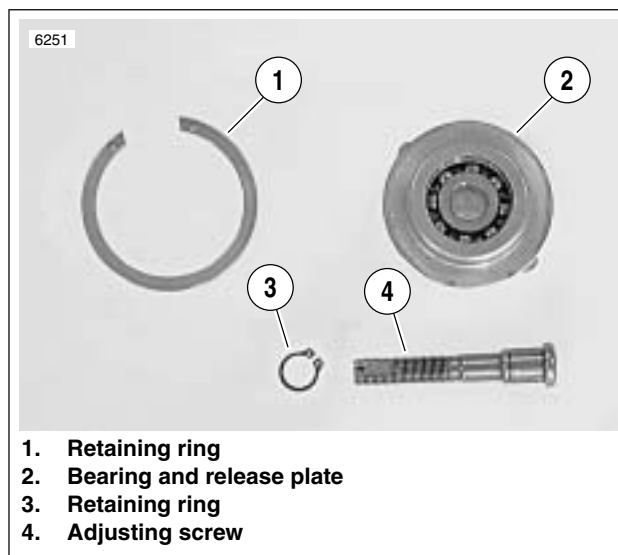

Figure 6-16. Adjusting Screw Assembly
- b. See Figure 6-16. Secure the adjusting screw assembly with large retaining ring.
11. See Figure 6-16. Remove and disassemble adjusting screw assembly.
- See Figure 6-16. Place bearing inside release plate. Insert adjusting screw through bearing and release plate. Secure with **new** retaining ring.
- b. See Figure 6-16. Secure the adjusting screw assembly with retaining ring.